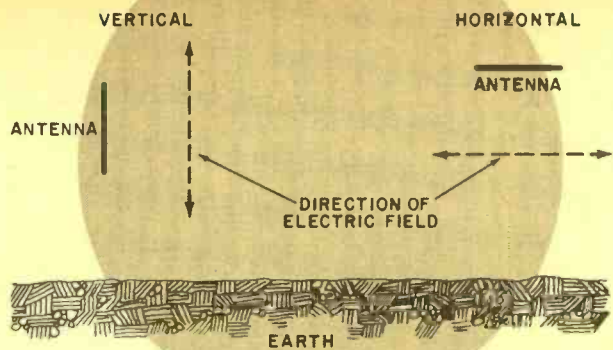

Fig. 1. Vertical polarization (left) and horizontal (right).
**Polarization** concerns the plane in which the electric field is set up by the antenna. (Radio waves have electric and magnetic fields at right angles to each other.) Most often, polarization of signals radiated by the antenna lies in the same plane as its active element(s), as shown in Fig. 1. Therefore, a vertical antenna (such as a mobile whip) radiates vertically polarized signals, whereas an antenna element mounted at right angles to a vertical mast is horizontally polarized.